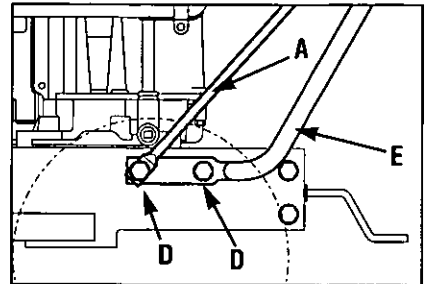

Figure 2-2B: Attach handlebars and bottom of struts to engine deck.
2. Remove and save two 5/16" screws securing ends of handlebars to engine deck. To free handlebars from shipping position, raise the two handlebar struts (A, Figure 2-2B) to a 45° angle. From front of machine, tilt right-side handlebar up over engine air cleaner and then lift other handlebar upward. Rotate handlebars over engine and position bottom of handlebars against sides of deck (see E, Figure 2-2B).
**NOTE:** Four screws (D, Figure 2-2B) are used to connect the handlebars to the engine deck. The screws thread into lock nuts welded to the back sides of the deck.
4. Swing the struts to 45° forward. Align the handlebar ends (E, Figure 2-2B) with the holes in the engine deck. Install two 5/16" hex flange screws (D, Figure 2-2B) into the rear holes and tighten.
5. Position both struts (A, Figure 2-2B) so the ends are aligned over the front holes in the handlebar ends. Secure the struts and handlebars with two 5/16" hex flange screws. Tighten all four screws. Tighten nuts "C."